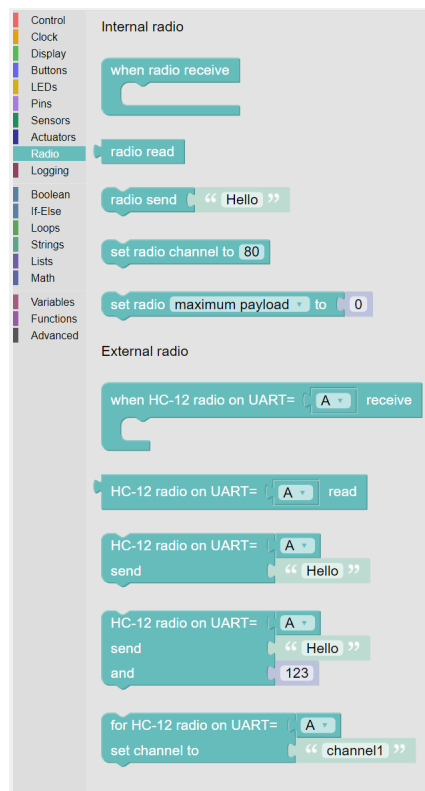

Fig. 2.20: The palette of **KookaBlockly Radio** blocks
**Radio** communications between **Kookaberries** is possible using the **Radio** blocks shown in Fig. 2.20.